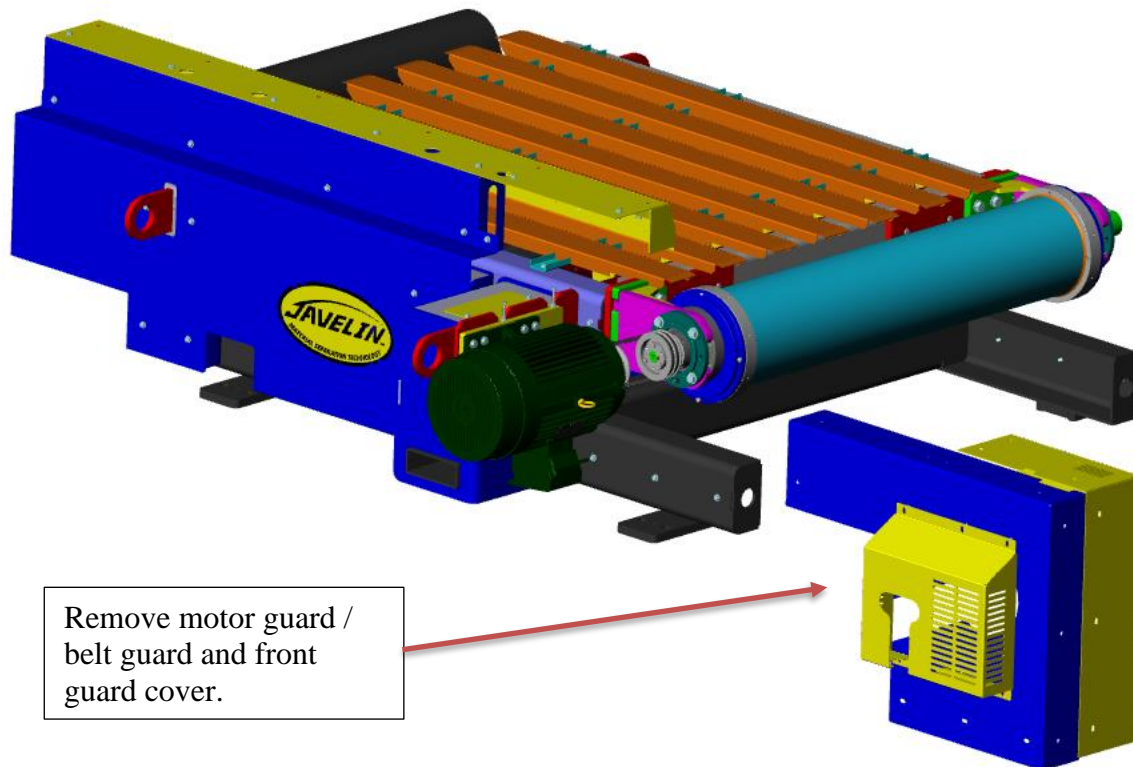

Figure 6
2. Remove motor guard / belt guard and front guard cover. Machine should appear as in **Figure 6**.